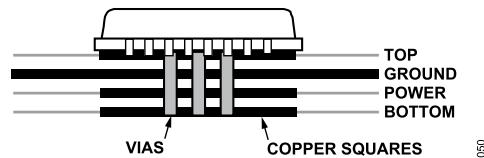

Figure 65. Exposed Pad Layout Example, Side View
- ▶ A copper layer equal in size to the exposed pad should be on all layers of the board, from top to bottom, and should connect somewhere to a dedicated copper board layer (see Figure 65).